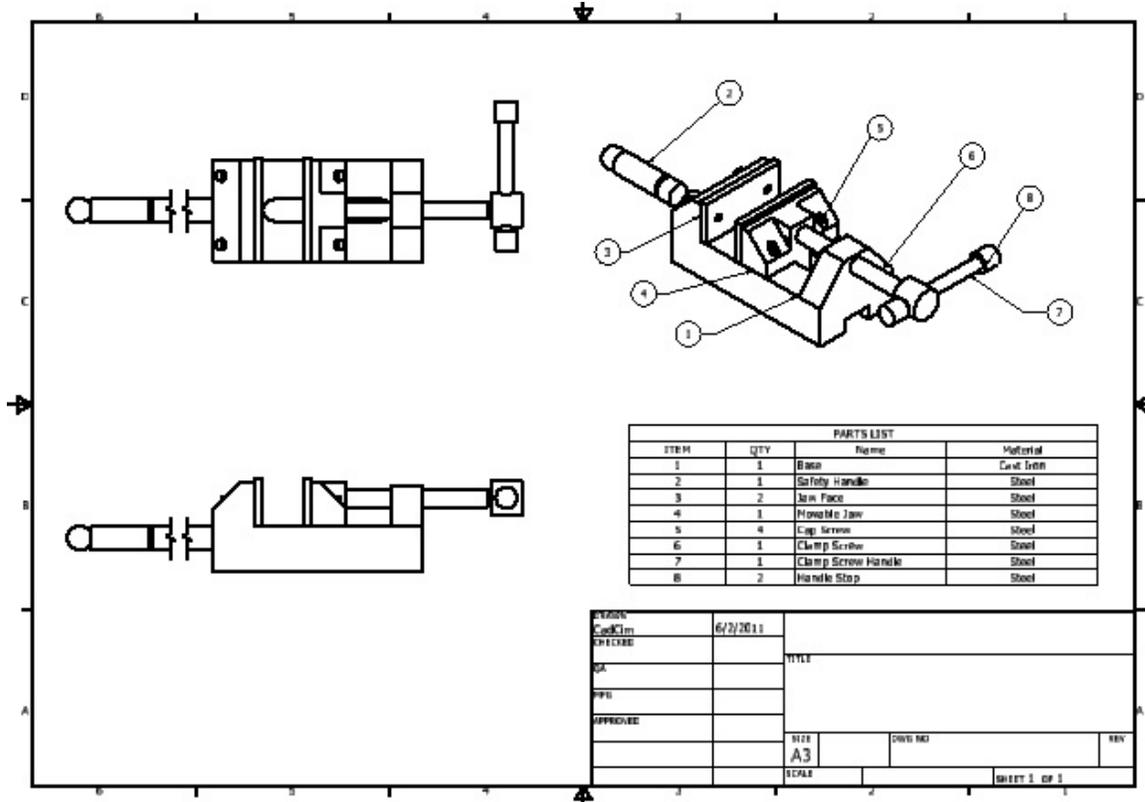

Figure 12-31 Final drawing sheet for Tutorial 3
4. Enter **4** in the **Size (X)** edit box and **1.5** in the **Height (Y)** edit box. Choose **Save** and then **Done** to exit this dialog box; the size of arrowheads in the balloons is increased.
6. Move the cursor over one of the edges of the Base in the isometric view and click to add the balloon. Next, move the cursor away from the Base and place it below the component, refer to Figure 12-31. Right-click and then choose **Continue** from the shortcut menu.
7. Similarly, add balloons to the remaining components, refer to Figure 12-31.
8. Drag balloons to a proper location in the drawing sheet. The final drawing sheet after adding the parts list and balloons is shown in Figure 12-31.